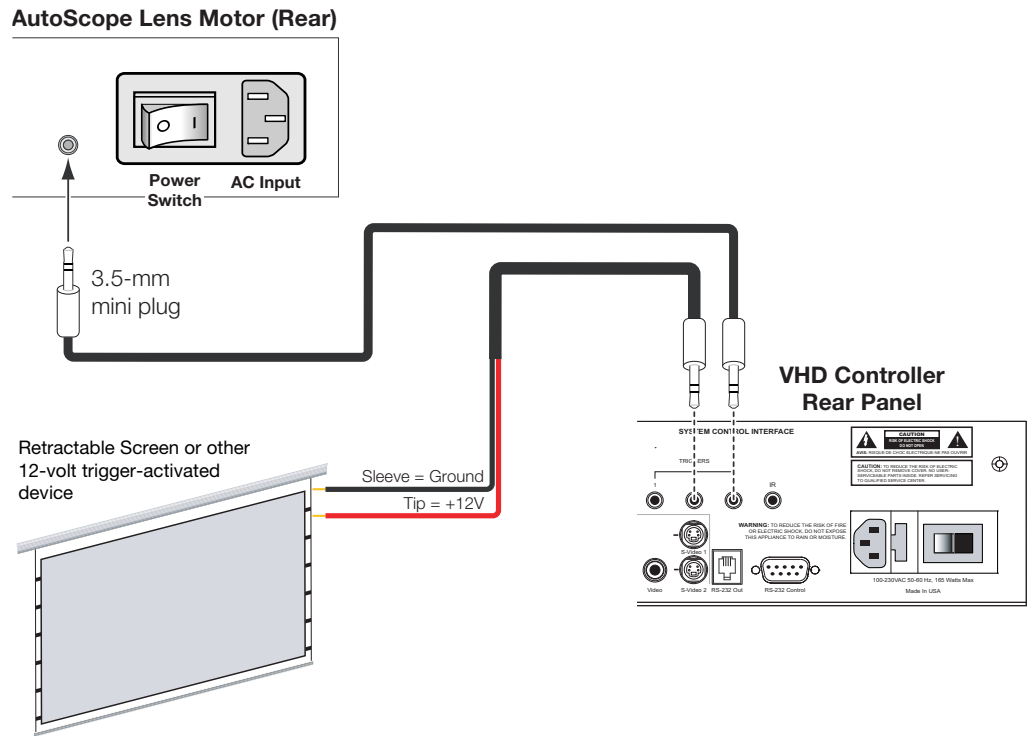

Figure 3-15. Connecting 12-Volt Trigger Outputs
If your Vision 140/150 is equipped with a CineWide with AutoScope system, connect the AutoScope lens motor to a 12-volt trigger output on the VHD Controller; see Figure 3-15. Similarly connect other 12-volt trigger-activated equipment (such as retractable screens or screen masks) to the other trigger outputs.
3. If this is an AutoScope-equipped projector, turn on the main power switch at the rear of the AutoScope lens motor. The lens motor power switch is located next to the AC input (see Figure 3-15).